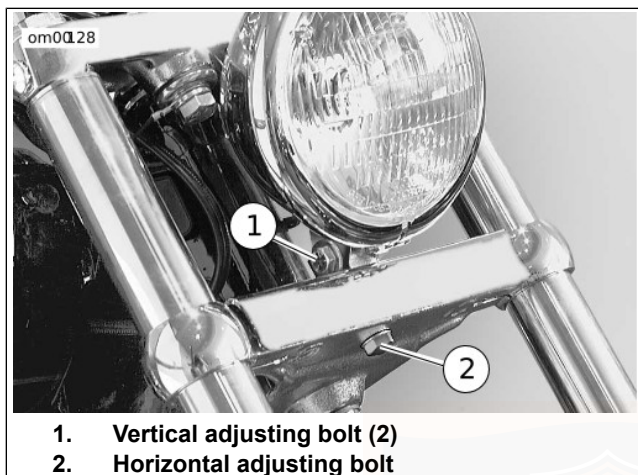

Figure 68. Headlamp Adjustment: FLSTC, FLSTF, FXSTB, FXST
1. See Figure 68. Loosen horizontal adjusting bolt (2) to adjust headlamp beam side to side.
3. Loosen vertical adjusting bolt (1) to adjust headlamp up or down.